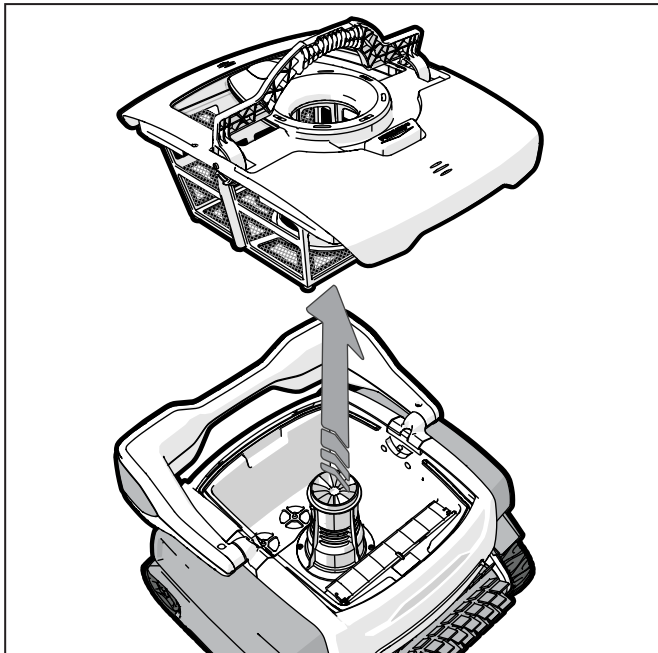

Figure 16. Remove the Filter Canister
3. Grasp the filter canister handle and lift up to remove the filter canister (see Figure 16).